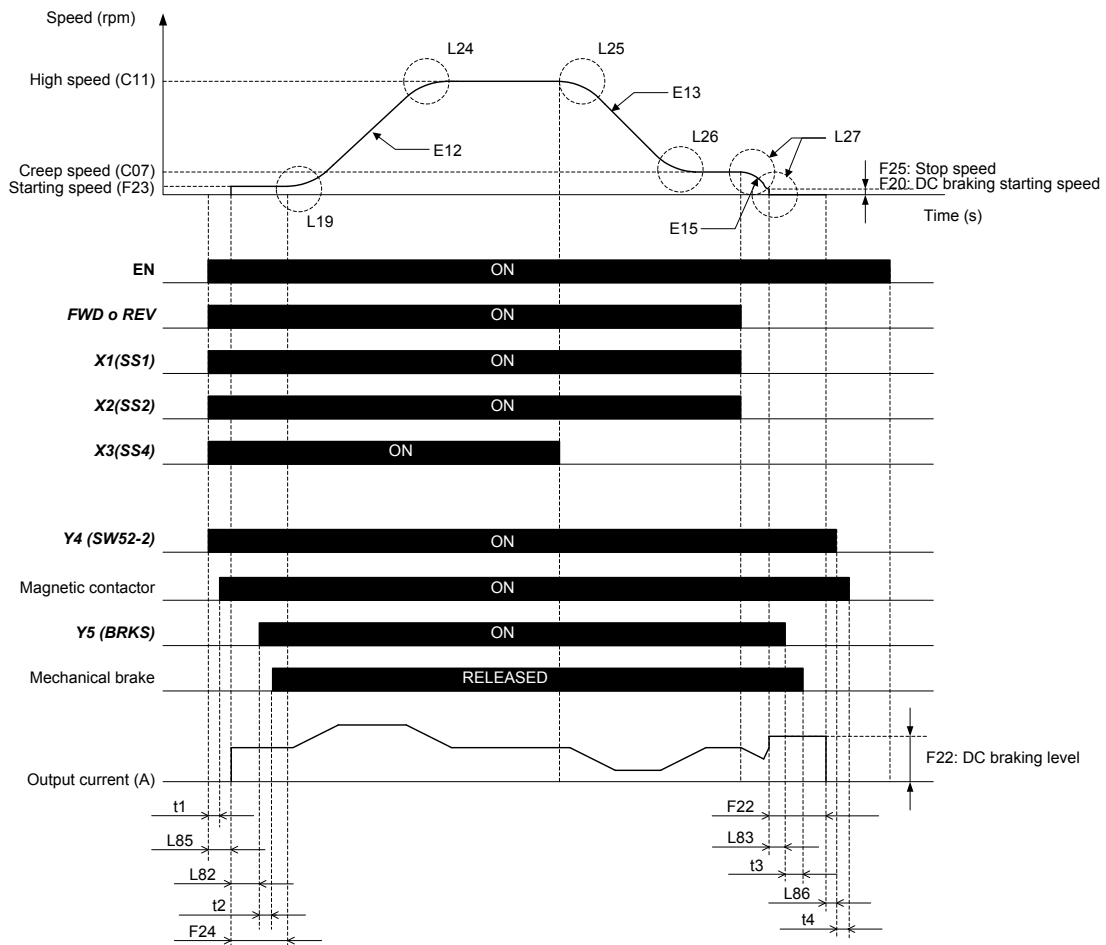

Figure 12.1: Open loop application time and signals sequence diagram.
Figure 12.1 shows a complete time diagram and signals sequence in case of open loop application. It shows a standard travel with a lift controlled by digital inputs with high and creep speed. Only induction motors can be controlled in open loop in a standard lift travel.
- ⌘ Figure 12.1 is a travel example where brake and main contactor signals are controlled by the inverter. If these signals are controlled by the lift controller, timing might differ.